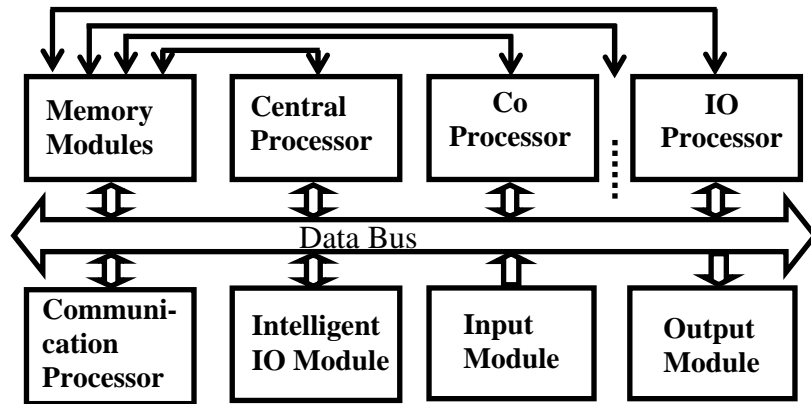
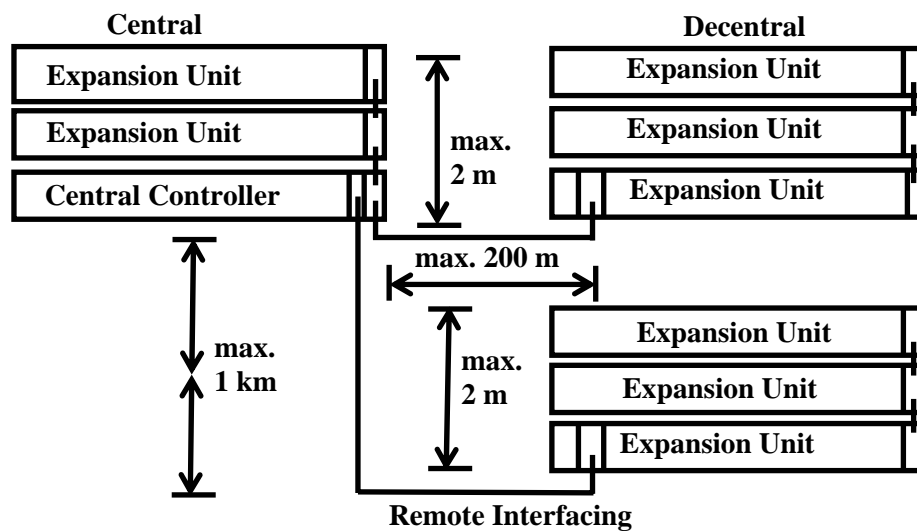

Fig. 22.2 Functional hardware organization of a PLC System
Fig. 22.3 Physical layout and Bus extension System for PLCs
- A. **Rack** - A rack is often large and can hold multiple cards. These cards, which realize the CPU, power, communication, i/o and special function modules, are connected by a bus, often called a backplane. When necessary, multiple racks can be connected together by bus extenders. Each channel in a card can be addressed by a rack – slot – channel addressing scheme, which varies from vendor to vendor. These tend to be of highest cost, but also the most flexible and easy to maintain. The functional architecture of such a rack mounted PLC system is shown in Fig. 22.2. The figure shows the various types of functional subsystems, which may or may not be on the same board, connected through a backplane. However this does not reflect the physical organization the various modules that make a PLC system. This is shown, distributed over a number of racks along with bus extension system shown in Fig. 22.3. The figure shows that while direct connection may be possible for extension over small distances of a few meters. For extension over longer distances special bus extension units are needed to provide the necessary drives for reliable signal transmission over a distance.